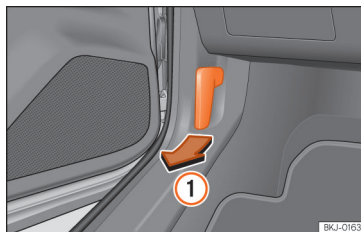

Fig. 171 Release lever in the driver's footwell area.
- Open the door and pull the lever that is underneath the instrument panel >>> **Fig. 171 ①**.